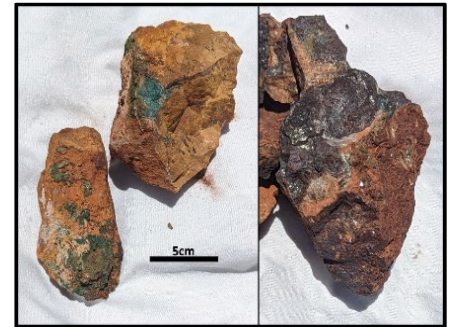

Figure 2. Copper bearing rock chip samples collected from Cheela Plains.
Analytical results have been returned for three (3) rock chip samples collected at the Cheela Plains prospect where Cazaly's geologists identified copper in outcrop in the form of copper carbonates, visual estimates up to 3% and copper sulphides, visual estimates up to 5% (Figure 2). Two of the three samples assayed above 10% copper, with the highest assay 32.32% copper, further details are included in Appendix 1. The mineralised copper trend continues to the south east with anomalous rock chip samples extending the anomaly over 2km strike. Limited historical drilling was conducted to the south-east of the best rock chip results however the drill holes appear to have failed to test the prospective stratigraphy and therefore ineffective at testing the copper potential along this trend.